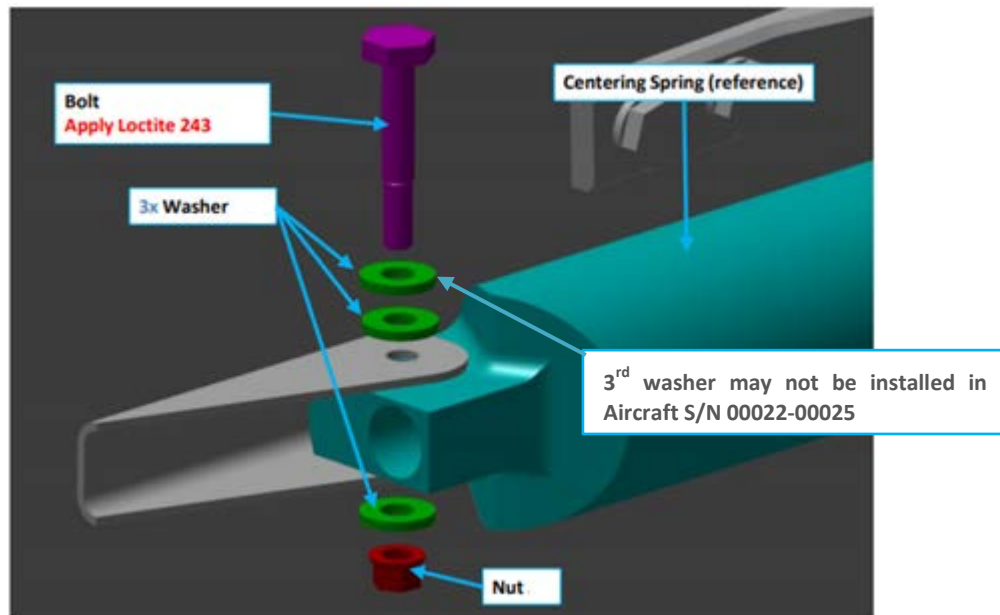

Figure 2: Rudder Centering Spring Hardware Configuration (Forward)
1. Install forward centering spring hardware as shown in Figure 2 above. Apply Loctite 243 to the threads of the bolt and torque hardware to 10-13 in-lb